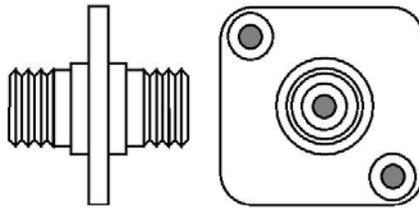

Figure 3: Typical Mating Sleeve
1. Blow compressed air inside the opening of the mating sleeve to remove trapped particles (Figure 3).